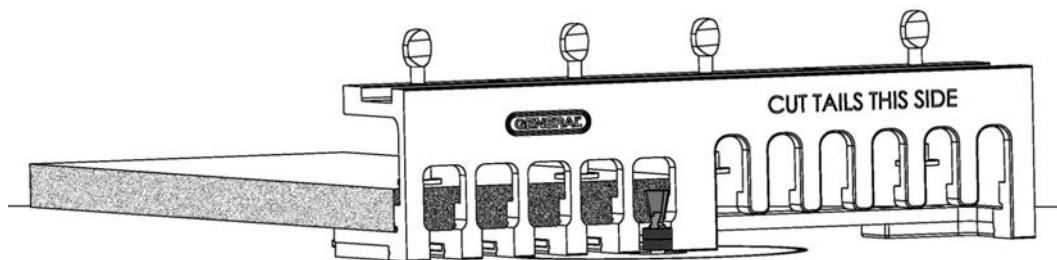

FIG. 13
10. Make all cuts to the pins board. For those cuts, the router should ride on the surface marked “cut pins this side” shown in FIG. 13 & 14. Be sure to follow the jig profile.